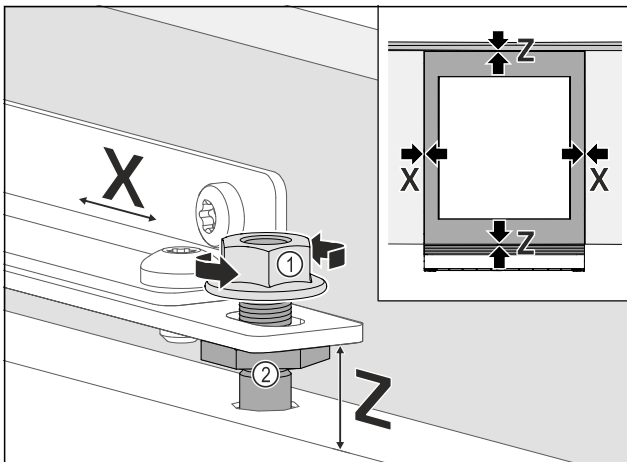

Fig. 76
- ▶ Align the unit door sideways: Loosen lock nut Fig. 76 (1), move unit door in X direction.
- ▶ Tighten the lock nuts Fig. 76 (1).
- ▶ Align the unit door in height Z and in the lateral inclination: Adjust the adjustment bolt Fig. 76 (2).